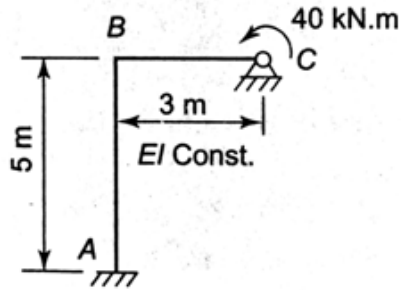

Figure 11
10. Analyse the frame shown in Figure 11 and draw the B.M.D. Consider EI as constant. [14 M]